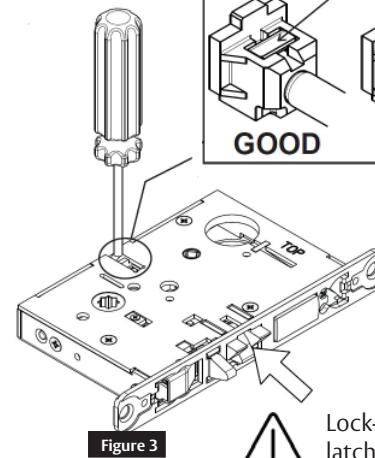

Figure 3
Step 4) Push in latch while holding screw driver behind latch tail. Lock-in can occur if latch is not properly installed. (Figure 3)